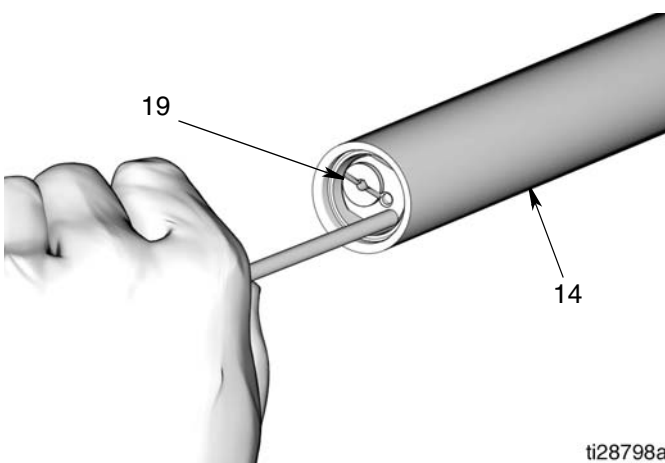

FIG. 28
3. Use a smooth, long brass or aluminum rod, free of sharp edges and burrs, to push the check valve assembly (19) into place in the outlet tube (14) (FIG. 28).